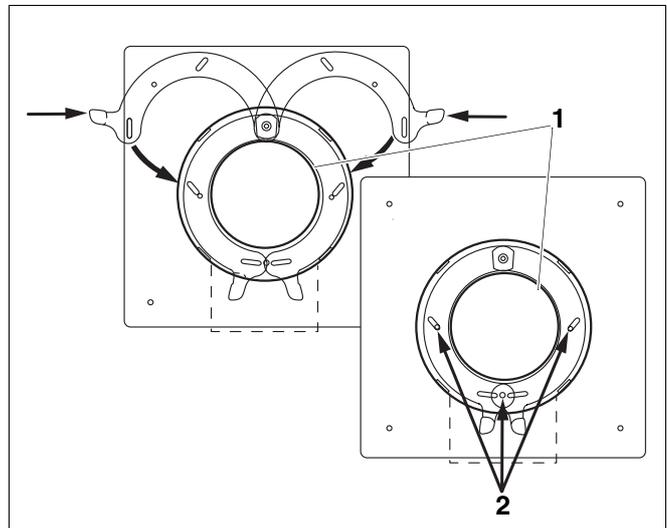

Fig. 24 Securing clips
- Attach the flue pipe to the wall penetration with the two securing clips. Rotate the securing clips down and attach with the screws (→ Fig. 24).
- Seal gap (→ Fig. 24) with silicone.